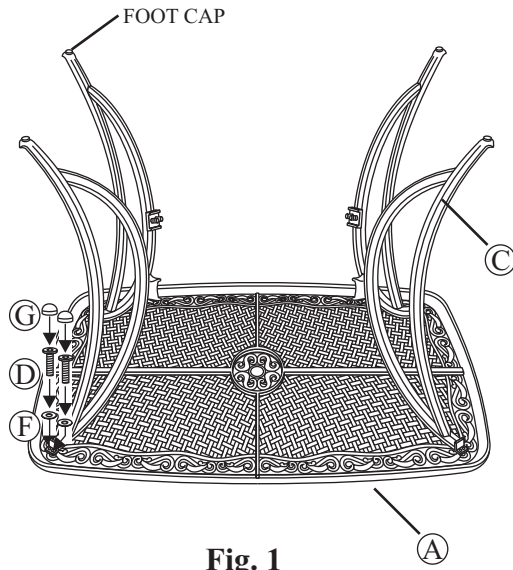

Fig. 1
Step 2: Place the table top upside down on a flat, non-abrasive surface. Attach a table leg to the table top by using the bolts and washers as shown in Fig. 1. Guide the bolts through the holes in the table leg, into the pre-drilled holes in the table top. **Hand tighten only.** Repeat for the other three legs.